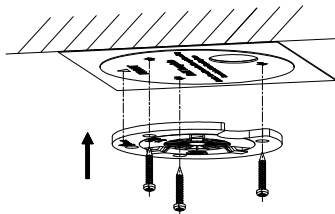
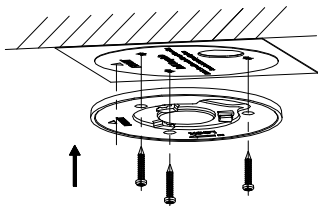

Figure 2-22 For DE2xxx Series PTZ Camera
Figure 2-23 For DE2xxxI Series (IR) PTZ Camera
4. Attach the base plate to the ceiling and secure it with the supplied three self-tapping screws by aligning with three screw holes in the ceiling, and the front arrows on the drill template and base plate should be aligned together as well, as shown in Figure 2-22 and Figure 2-23.